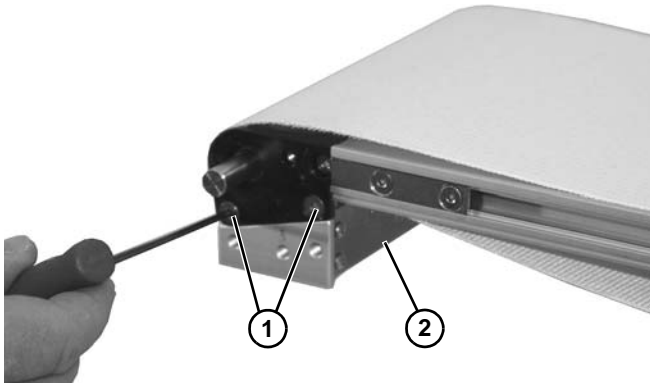

Figure 17
4. Remove two screws (**Figure 17, item 1**) on each side of conveyor holding pinch drive assembly (**Figure 17, item 2**).